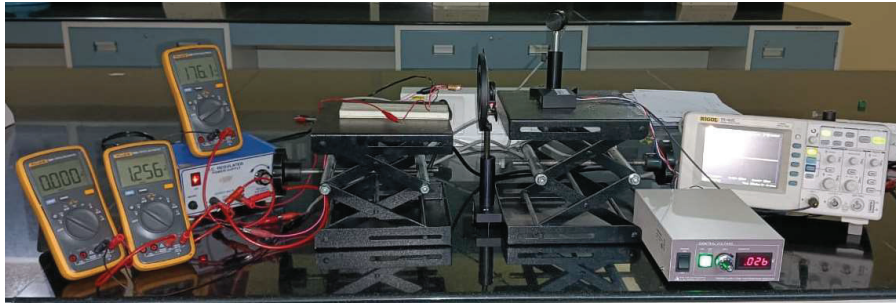

Figure 9: Actual experimental set up for gain and spectral response of PMT
6. After fixing the input voltage to PMT, carefully replace the photodiode with the PMT exactly at the same position without disturbing the source. Set up the circuit to measure the PMT output voltage on DSO as already explained in step (I). Vary the control voltage from 0.3V (vary till the DSO output saturates) in steps of 0.5 V and record the corresponding DSO output voltage. An actual set up with the complete assembly is shown in Fig.9.